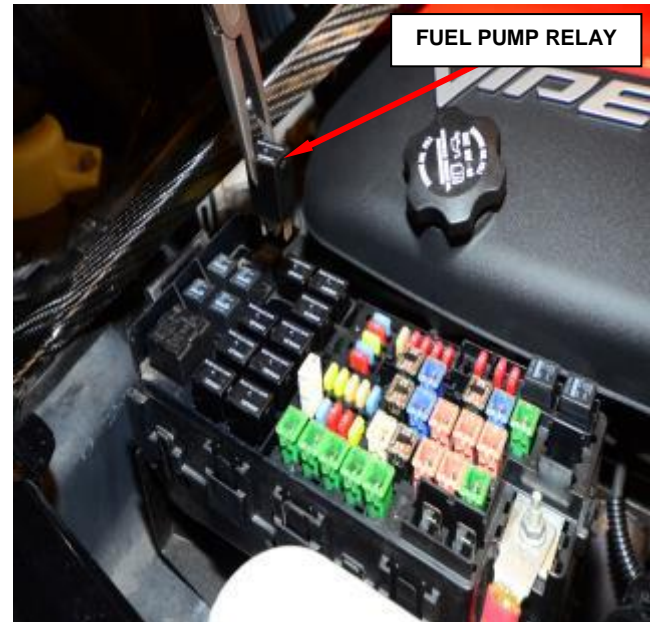

Figure 9 – Fuel Pump Relay Location
- a. Remove Fuel Pump relay from the Power Distribution Center (PDC). For location of relay, refer to label on underside of PDC cover (Figure 9).